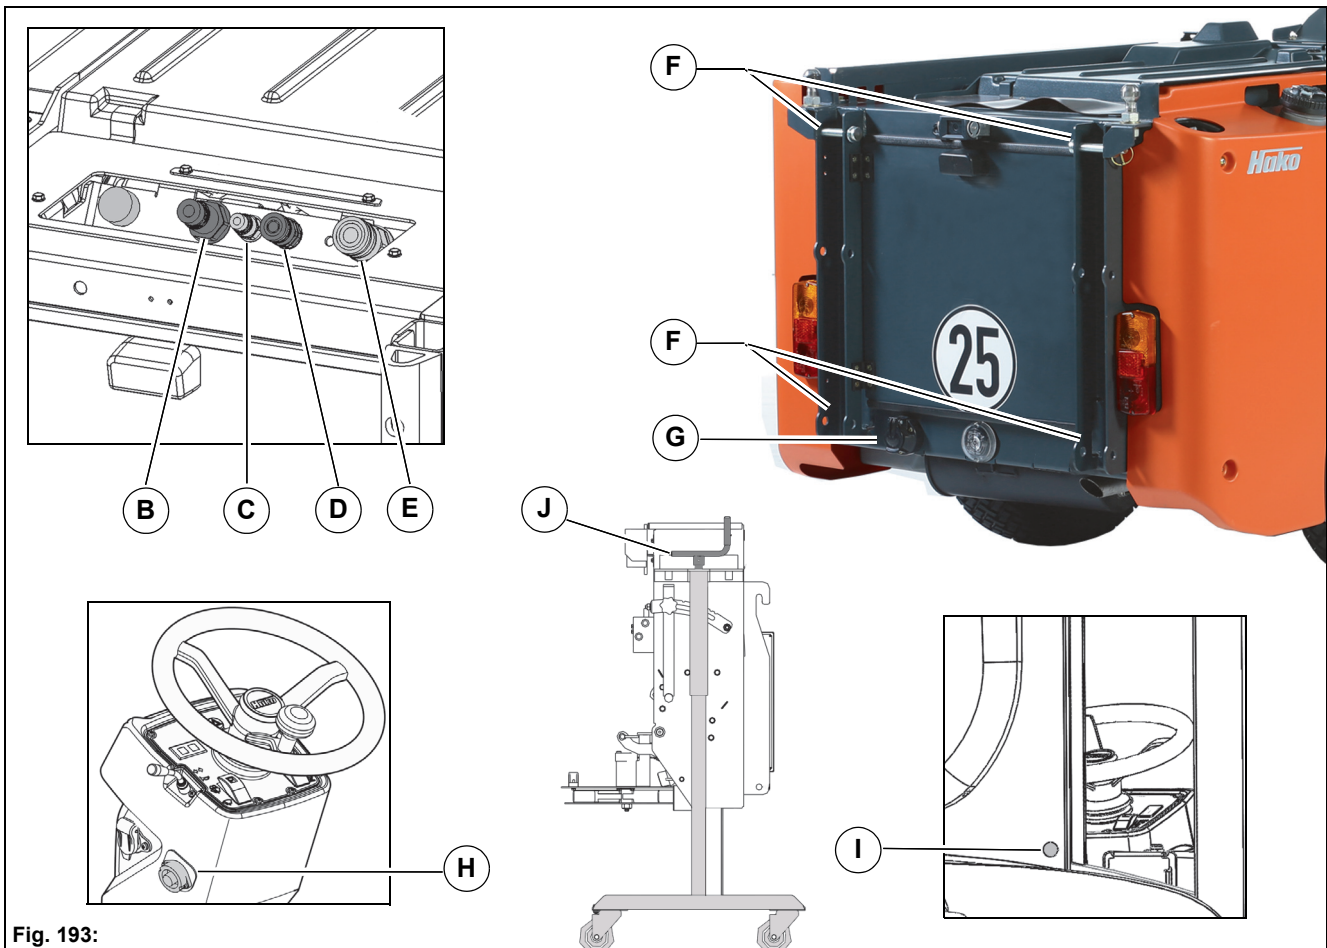

Fig. 193:
- Spreader roller hydraulic motor – supply **Fig. 193-B**
- Spreader roller hydraulic motor – return **Fig. 193-E**
- Spreading disk hydraulic motor – supply **Fig. 193-C**
- Spreading disk hydraulic motor – return **Fig. 193-D**
- X65 – 7-pin socket for lighting **Fig. 193-G**
- X67 – 7-pin socket for spreader **Fig. 193-H**
- X68 – 7-pin socket for spreader **Fig. 193-I**
4. With both cranks **Fig. 193-J** of the trolley lower the spreader evenly onto the holding points **Fig. 193-F** of the vehicle tail end and secure with bolts.